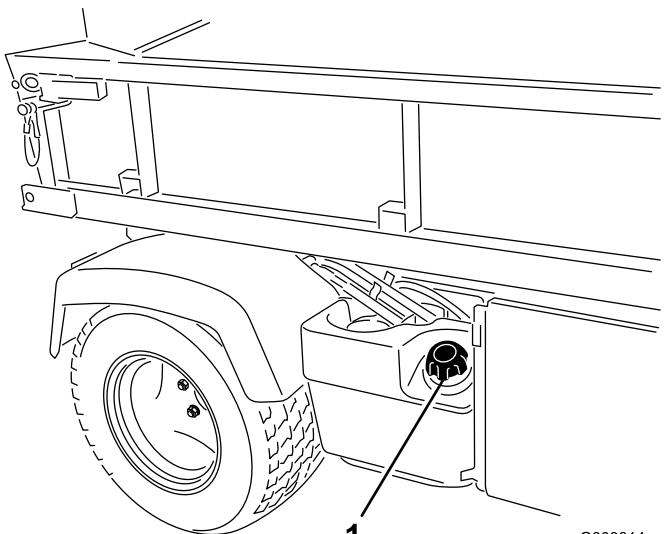

Figure 11
2. Remove the fuel tank cap (Figure 11).